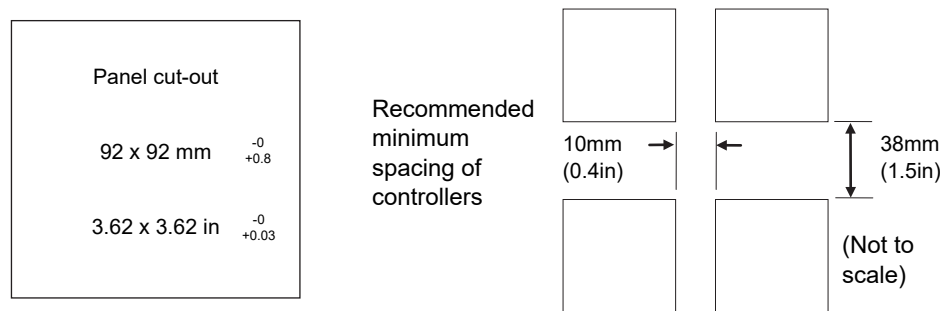

Figure 4 Panel Cut-out and Minimum Spacing Requirements
1. Prepare the panel cut-out to the size shown in Figure 4. Ensure that there is sufficient spacing between instruments as shown by the minimum dimensions given in Figure 4. Ensure also that the controller is not mounted close to any device which is likely to produce a significant amount of heat which may affect the performance of the controller.